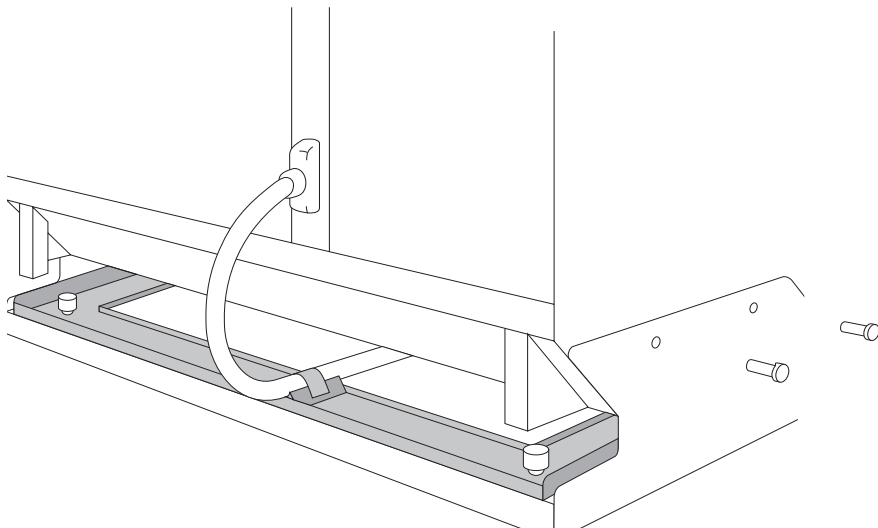

Figure 2-10 Cables through the back of the MSH
Refer to Figures 2-10 and 2-11.
- 1 Figure 2-10: Let cables drop down the front of the chassis, insert them through the front of the cable clip and route them out through the back of the cable support tray. Tighten the cable clip.